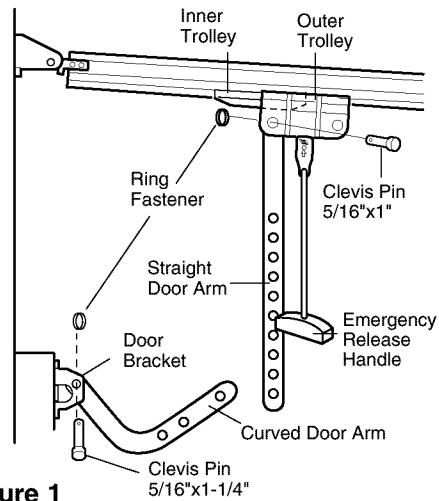

Figure 1
- Mark and drill 5/16" left and right fastening holes. Secure the bracket as shown in Figure 1 if there is vertical reinforcement.
- Make sure garage door is fully closed. Pull the emergency release handle to disconnect the outer trolley from the inner trolley. Slide the outer trolley back (away from the door) about 2" as shown in Figures 1, 2 and 3.
#### •Figure 1: